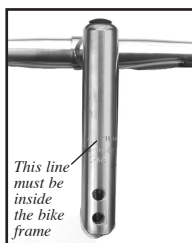

Figure 13- Minimum insertion mark on quill stem
3. Adjust the handlebars to the desired height, but with the minimum insertion line inside the frame (Figure 13). A minimum of $2\frac{3}{4}$ inches (70mm) of the stem quill must always remain in the frame.
Never ride your bicycle with a quill stem raised above the minimum insertion mark. A quill stem that is positioned too high can damage the bike and can cause you to lose control and fall. Make sure the minimum insertion mark (Figure 13) is inside the frame.